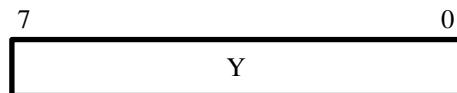

Figure 24. YCrCb 4:0:0 Color Space.
- YCrCb 4:0:0 — This format only has the Y component as shown in Figure 24. This format is equivalent to 8-Bit Grayscale RGB color space. This mode is defined as 8 bits per color and one color plane.